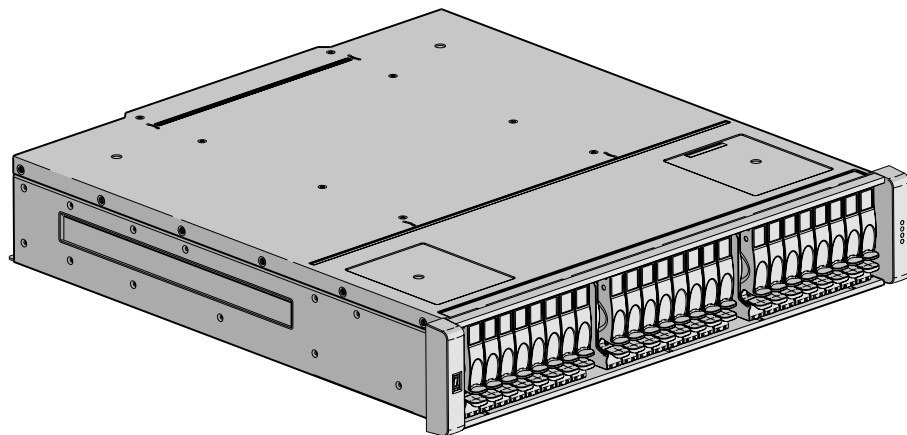

Figure 31 Controller enclosure assembly (2U24)
- Assembly: Figure 31 on page 209